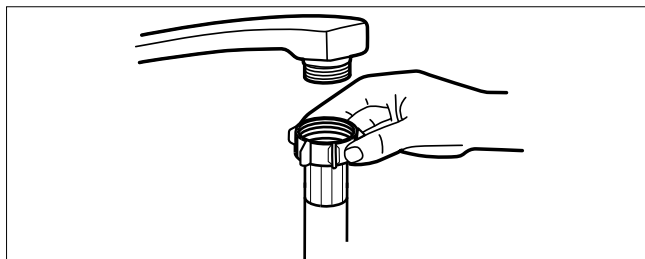

Fig. 5 – Connecting the water hose
- ▶ Connect the water supply hose (25) to a cold water tap with a 3/4" thread (see Fig. 5).